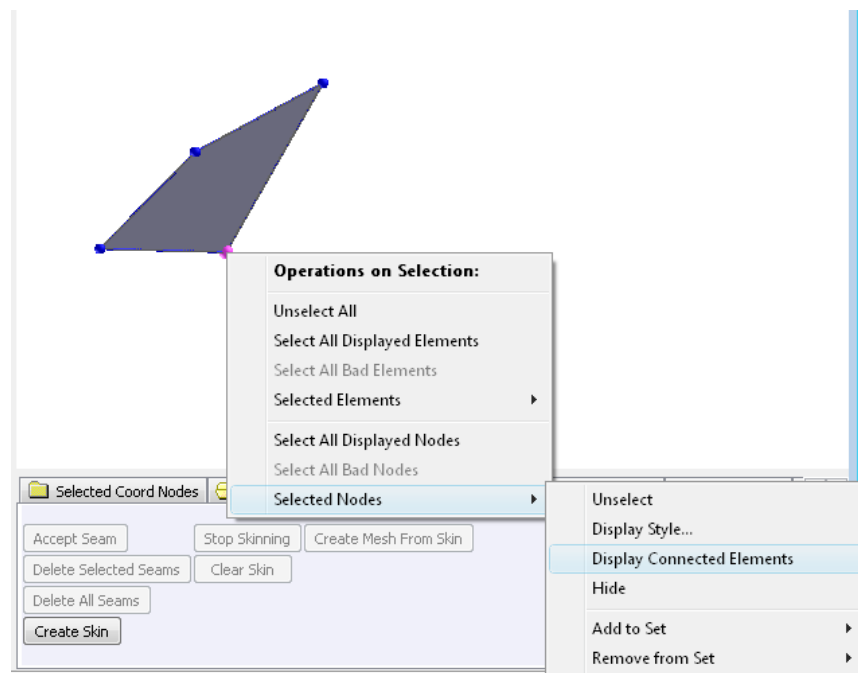

Figure 5.38 Display Connected Elements of Selected Node.
- Select any one of the coordinate nodes of the Bad Element by left-clicking on the node while holding down the *shift-key*. Then right-click and select: **Operations on Selection** → **Selected Nodes** → **Display Connected Elements** to display all the elements connected to that node (neighboring elements). (Figure 5.38)